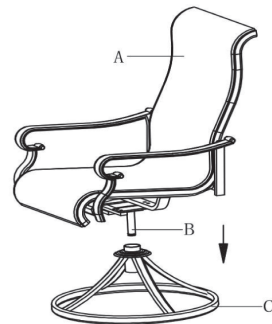

Figure 2
Step 2. Place the chair frame (A) into the base (C) as show in Figure 2.